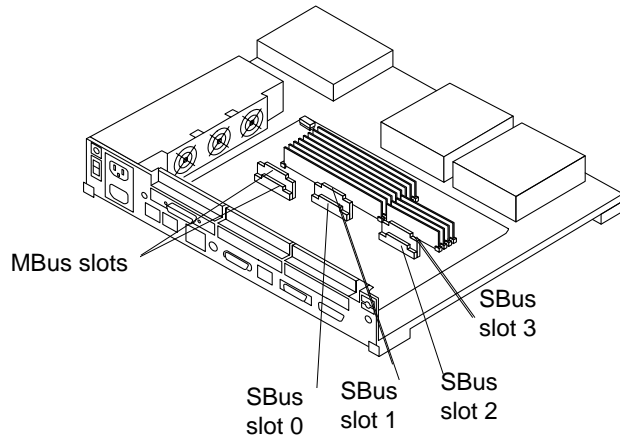

FIGURE 10-1 SBus Slot Locations
6. Note the SBus card location. See FIGURE 10-1.